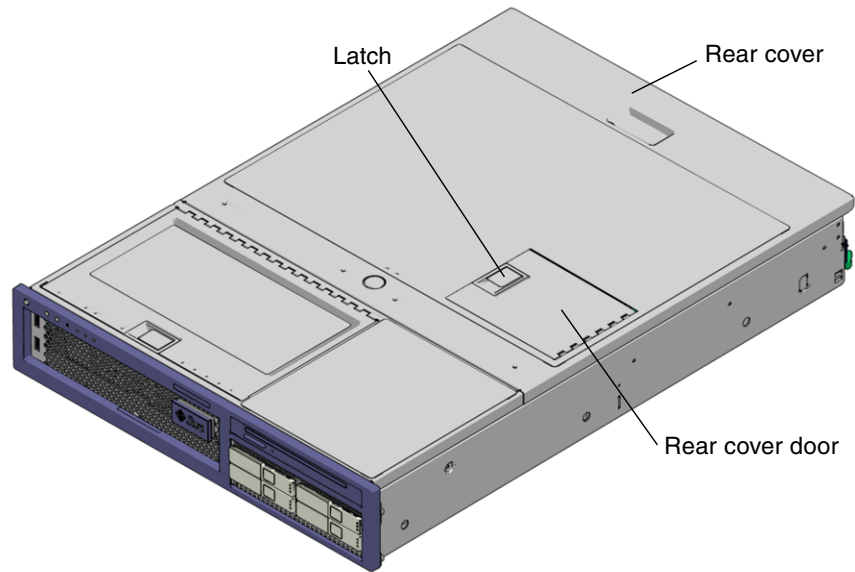

FIGURE 3-34 Opening the Rear Cover Door – Sun Fire V245
1. Open the rear cover door (FIGURE 3-34).
2. **Open the rear cover door** (FIGURE 3-34).